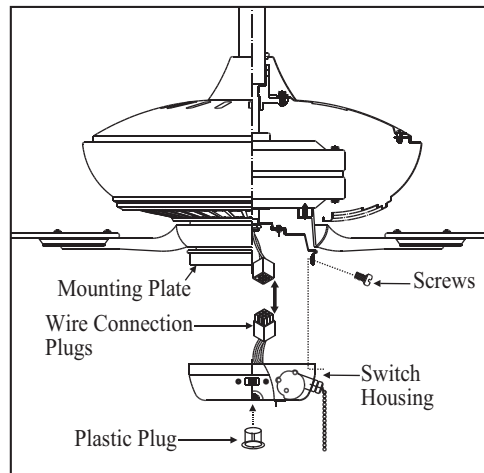

Figure 17
1. Disassemble the switch housing cover from the light kit, you can keep the light kit for future use. (Fig. 17)